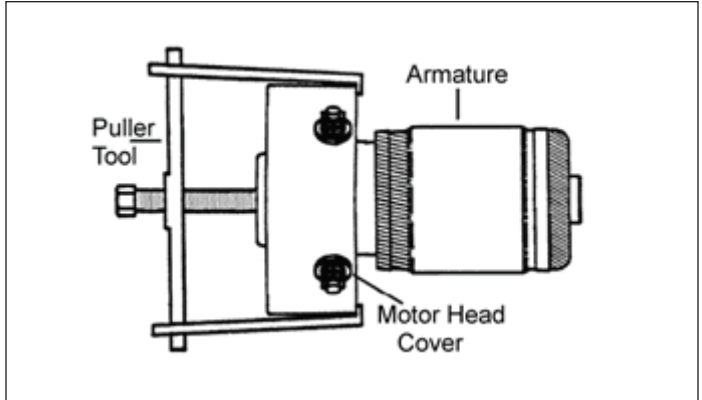

Figure 10-5. Removing Motor Head
3. Place puller around the motor head. Use the center of the shaft to locate puller. See Figure 10-5.